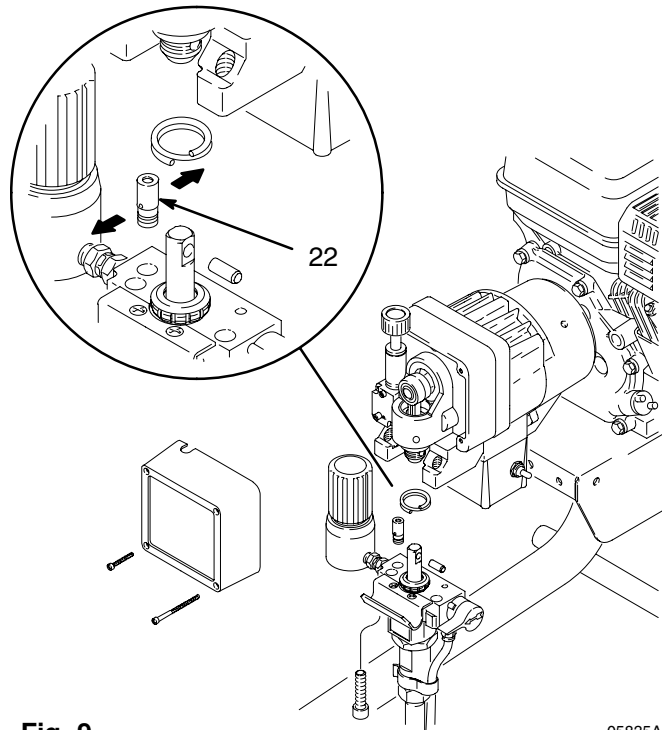

Fig. 9
NOTE: See Fig. 9 for this procedure.
2. Use a pull-twist motion to remove the transducer (22) from the pump manifold.
6. Align the holes in the transducer as shown by the arrows in Fig. 9.